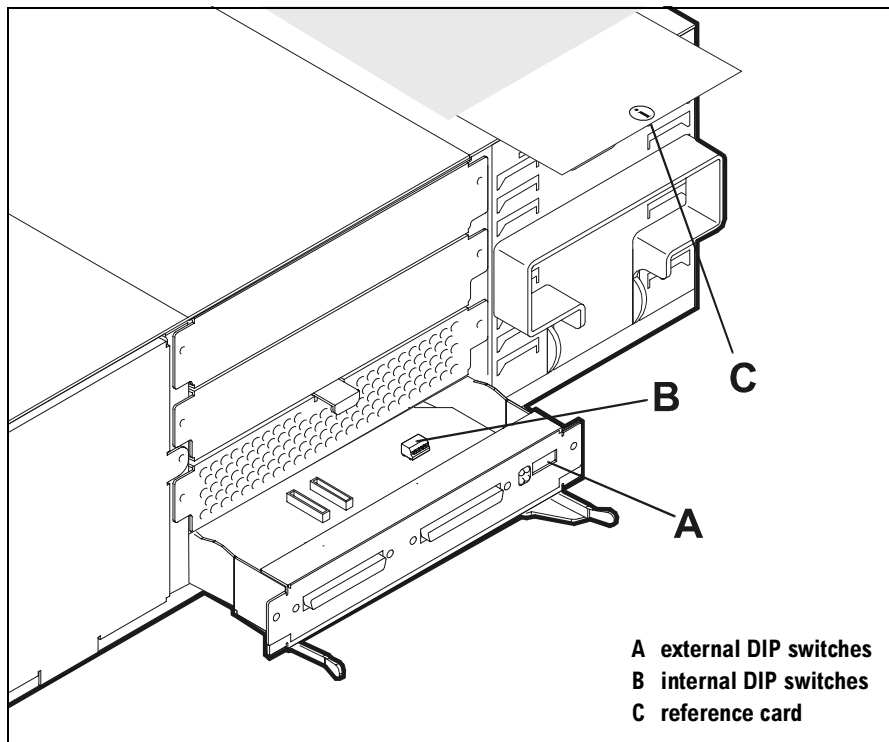

Figure 38 DIP Switch Location
Five DIP switches (A in Figure 38) on the BCC bulkhead determine bus structure, addressing, and termination. Another bank of switches (B), inside the BCC, determine how buses act when a disk is removed or the power fails. A reference card (C), attached to the top of the disk system, identifies switch positions.